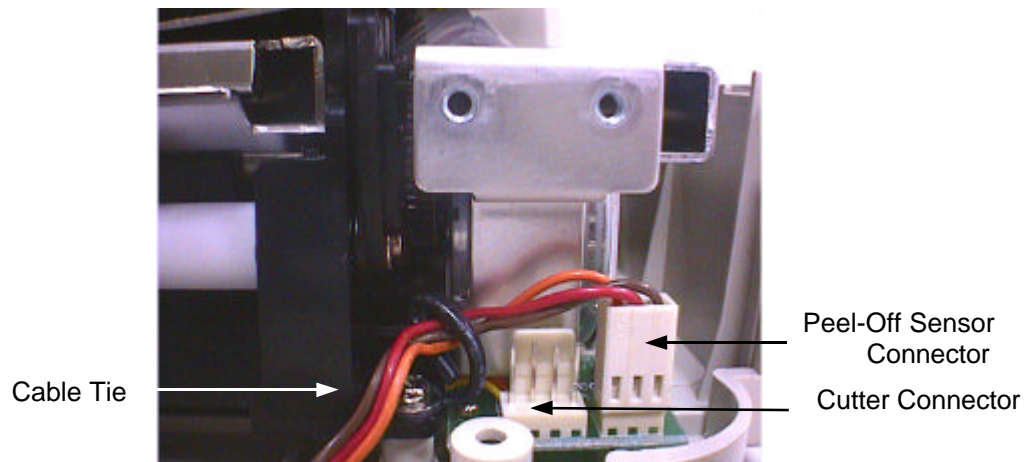

Fig. 3.16 Cable tie and peel-off sensor connector
5. Release the cable tie and remove the peel-off sensor connector. (Cf. Fig. 3.16)